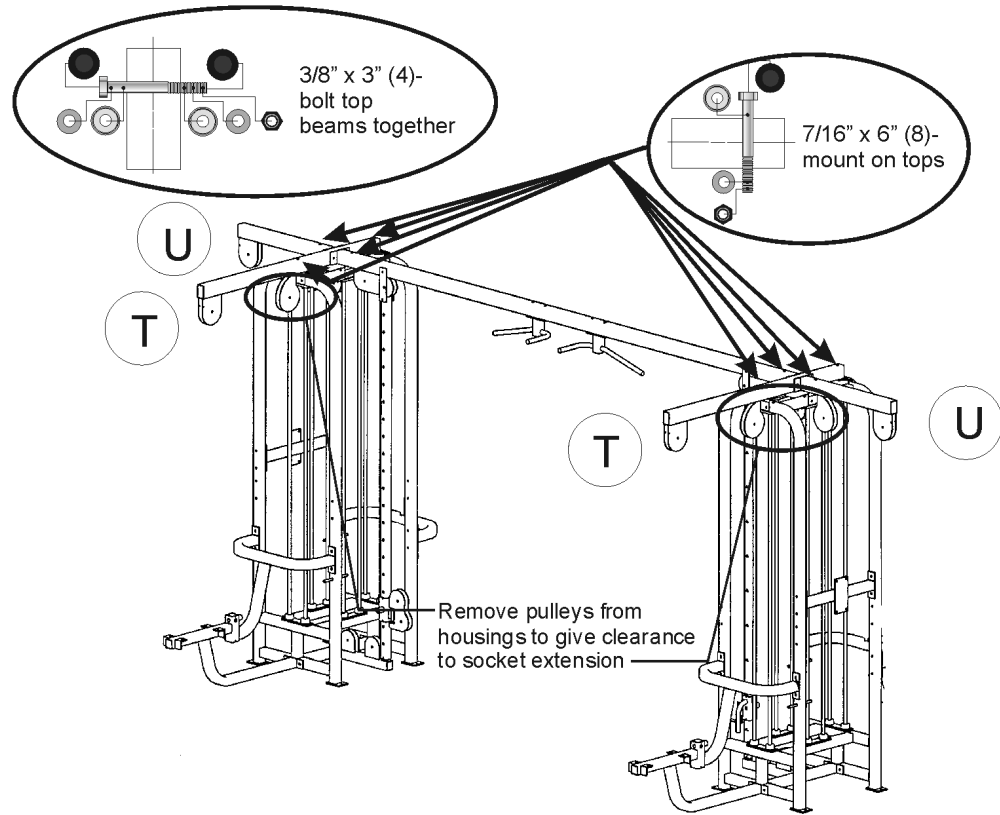
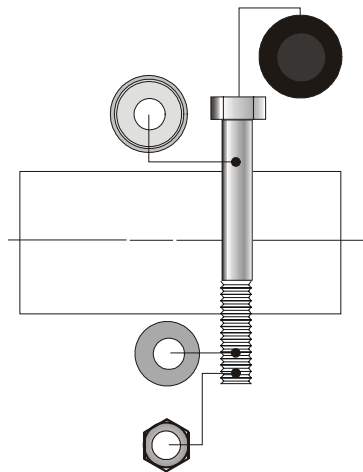

Figure 6. Mount lat tops and tricep tops.
Figure 7. Configuration for 6" bolts.
3. Using a 5/8" socket with extension and combination wrench, bolt on the connecting beam to the cubes using two of the large 7/16" x 6" bolts, 7/16" washers, and 7/16" nuts, end cap washers and end caps. Figure 6 shows the connected cubes.
4. Using a 5/8" socket and combination wrench, mount the 56" lat tops (part T from *HARDWARE* section) to the cells by inserting two of the large 7/16" by 6" bolts using the hardware configuration shown in Figure 7. Mount the 29" tricep top (part U in *HARDWARE* section) to the frame and connecting beam (See Figure 6). You will need to remove the pulleys from the teardrop pulley assemblies to gain clearance for the socket wrench extension. Leave the pulleys out of the housings until the cables have been installed.
Hardware Figure 6. Weight stack rubber bumpers.
Hardware Figure 7. Floating pulleys.